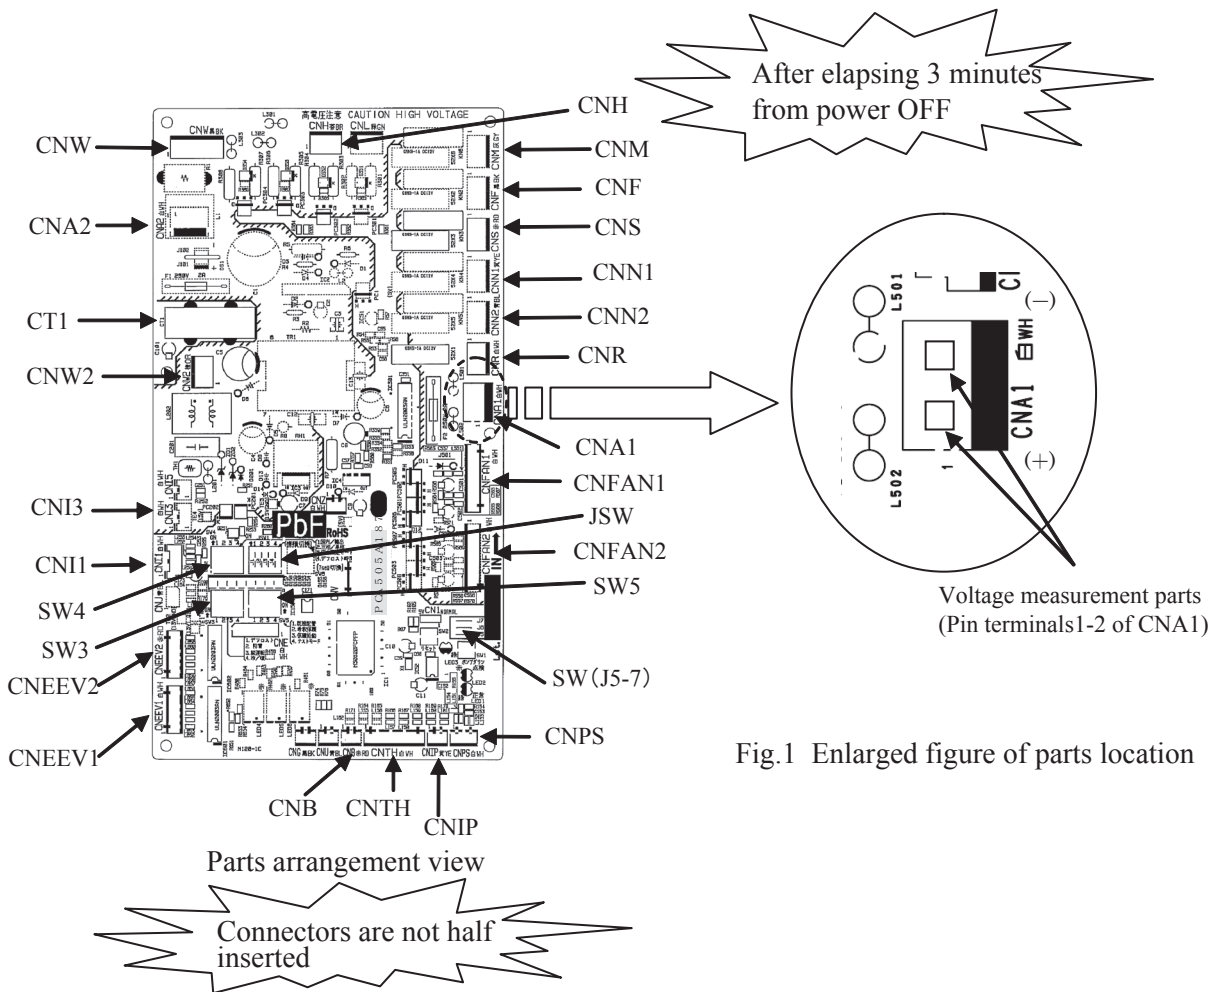

Fig.1 Enlarged figure of parts location
- 6) Connect the connectors with the control PCB referring to the parts arrangement of Fig.1.
(Be sure to measure voltage (DC) on both capacitor terminals located in control back, and **check that the voltage is discharged sufficiently.** (Refer to Fig.1))